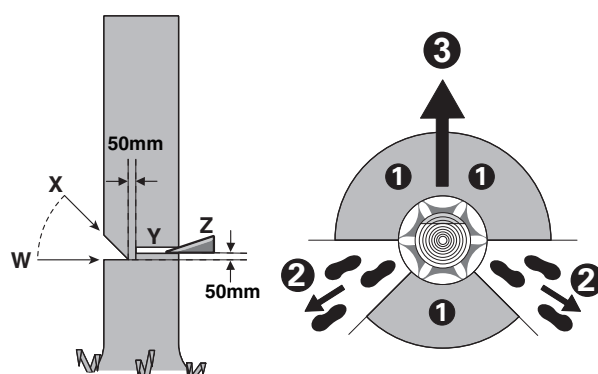

Figure 1
An escape path should be planned and cleared as necessary before cuts are started. The escape path should extend back and diagonally to the rear of the expected line of fall as illustrated in Figure 1. Before felling is started, consider the natural lean of the tree, the location of larger branches and the wind direction to judge which way the tree will fall. Remove dirt, stones, loose bark, nails, staples and wire from the tree.
Make the notch 1/3 the diameter of the tree, perpendicular to the direction of falls as illustrated in Figure 1. Make the lower horizontal notching cut (W) first. This will help to avoid pinching either the saw chain or the guide bar when the second notch (X) is being made.
Make the felling back cut (Y) at least 50 mm higher than the horizontal notching cut as illustrated in Figure 1. Keep the felling back cut parallel to the horizontal notching cut. Make the felling back cut so enough wood is left to act as a hinge. The hinge wood keeps the tree from twisting and falling in the wrong direction. Do not cut through the hinge. As the felling gets close to the hinge, the tree should begin to fall. If there is any chance that the tree may not fall in desired direction or it may rock back and bind the saw chain, stop cutting before the felling back cut is complete and use wedges of wood, plastic or aluminium (Z) to open the cut and drop the tree along the desired line of fall (③).
When the tree begins to fall remove the Chainsaw from the cut, stop the motor, put the Chainsaw down, then use the retreat path planned (②). Be alert for overhead limbs falling and watch your footing. (See Figure 1)